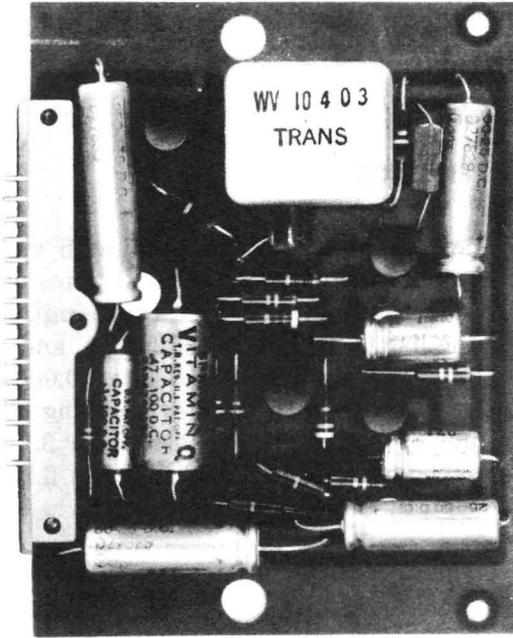

Fig. 2 — KS-16728, List 1 Amplifier
1.03 The KS-16754, List 1 amplifier consists of a plug-in KS-16728, List 1 amplifier (Fig. 2), transformers, gain control, automatic output-level control, cover (list 1 only), and other miscellaneous components.